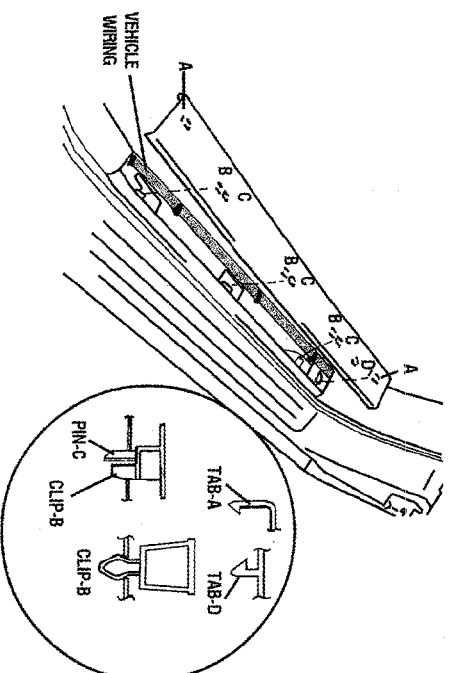

FIGURE 18
- 1.) PULL THE FRONT SCUFF PLATE UPWARD WHILE DETACHING TABS A, DETACH CLIPS B, PINS C AND D FROM THE BODY, AND THEN REMOVE THE INNER FRONT SCUFF PLATE. (SEE FIGURE 18)